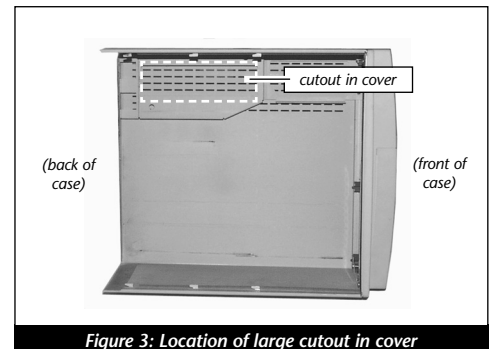

Figure 3: Location of large cutout in cover
4. Turn over the cover and locate the large cutout in the support framing (*Figure 3*). This cutout provides the necessary clearance required for the adapter kit to fit inside the computer. Take care when removing and replacing the cover onto your computer to prevent damaging the adapter's video flex cable as it fits into this cutout.